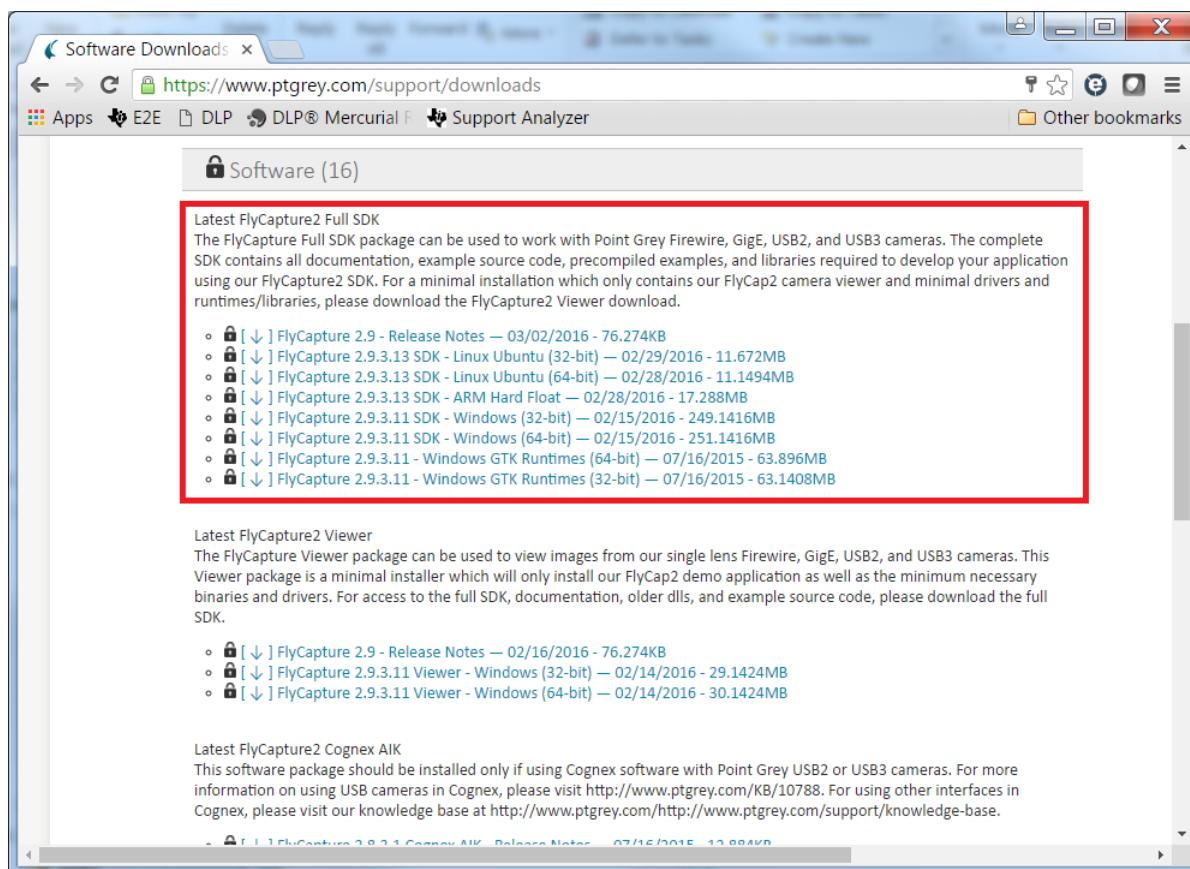

Figure 2-1. Point Grey Software Downloads Page
1. Go to the Point Grey download site, located at <http://www.ptgrey.com/support/downloads> and download the FlyCapture2 Full SDK for the appropriate operating system, as shown in Figure 2-1.